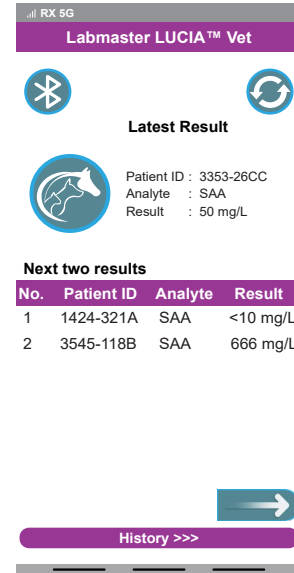

Figure 36. Vet Android Application Main Screen
3. After successfully launching the application, see Figure 36, tap the Bluetooth icon to
- Tap the Sync icon to import data from the connected analyzer. See Figure 36.